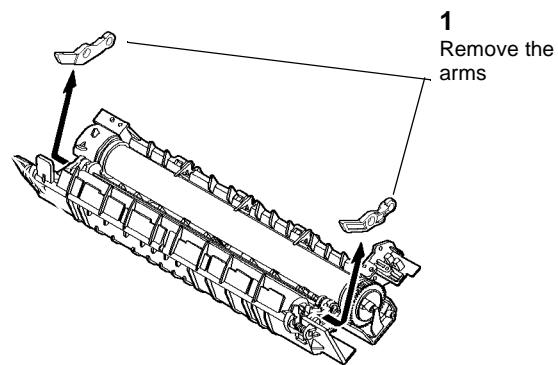

Figure 2 Removing the Pressure Roll Arms
6. (Figure 2): Remove the Pressure Roll Arms.